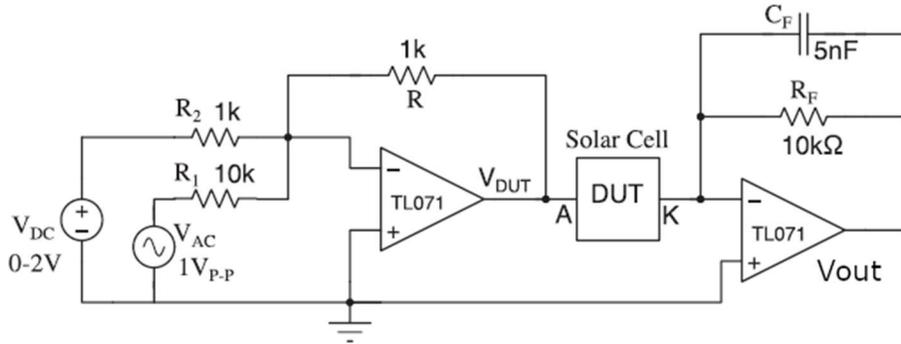

Fig.1 Circuit for CV data, where A is anode and K is cathode of solar cell(DUT)
The capacitance of the solar cell (Device under test, DUT) depends strongly on the applied DC voltage. Since the experiment involves measurement of the C-V profile of the capacitor, the circuit must also be designed to apply an additional DC voltage across the capacitor (solar cell) that can be varied, while measuring the AC current to extract the capacitance. In our setup, we apply a variable DC bias and a small AC signal (small enough not to perturb DC bias and not affect the charge polarization due to the DC bias) to the DUT. This is accomplished by using a basic inverting summing amplifier that adds the variable DC voltage (with unity gain  $R/R_2$ ) and the small signal AC voltage (with attenuation factor  $1/10 = R/R_1$ ), the output voltage of which is then connected to the DUT. The voltage  $V_{DUT}$  in Fig. 1 is thus given by the following equation:
3. Make the circuit as shown in Fig.1.